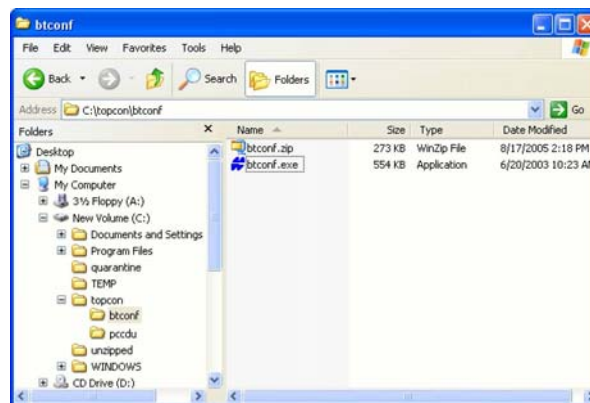

Figure 2-4. Extract Program and Create Shortcut
4. Create a shortcut on the computer's desktop for quick access to **BTCONF** (Figure 2-4).